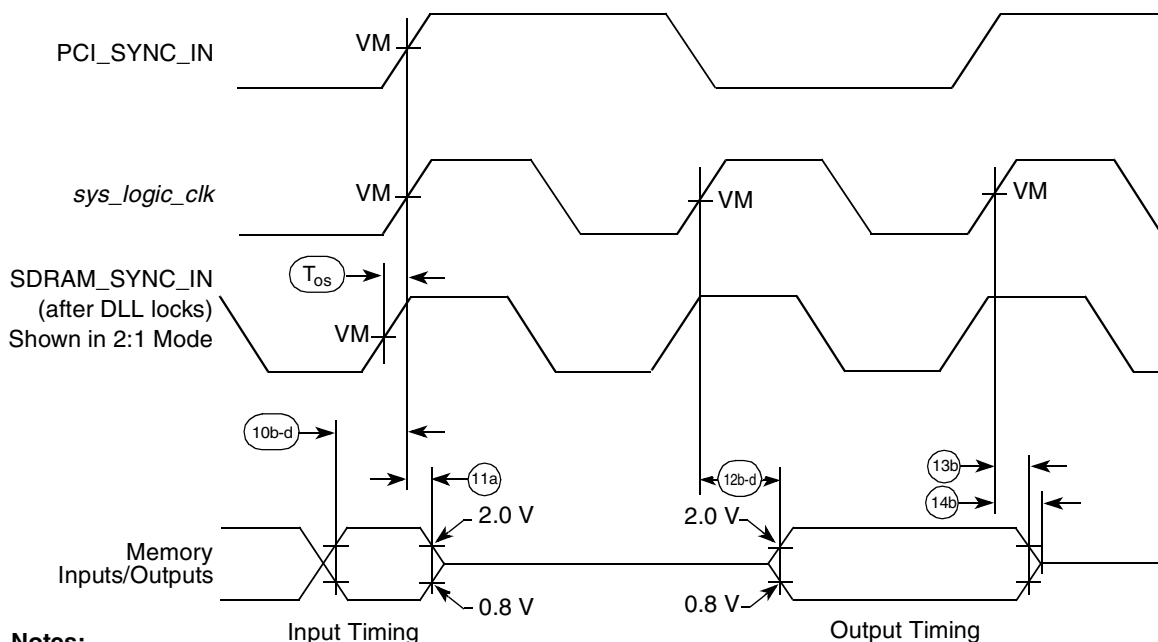
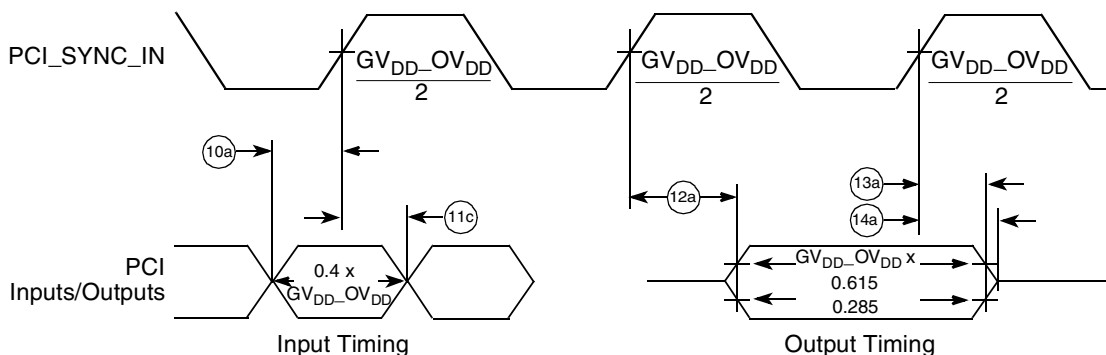

Figure 11. Input/Output Timing Diagram Referenced to SDRAM_SYNC_IN
Figure 12. Input/Output Timing Diagram Referenced to PCI_SYNC_IN
Table 10 provides the input AC timing specifications at recommended operating conditions (see Table 2) with $V_{DD} = 3.3 \text{ V} \pm 0.3 \text{ V}$. See Figure 11 and Figure 12.
- All PCI signals are measured from $\text{GV}_{\text{DD_OVDD}}/2$ of the rising edge of PCI_SYNC_IN to $0.4 \times \text{GV}_{\text{DD_OVDD}}$ of the signal in question for 3.3-V PCI signaling levels. See Figure 12.
- All memory and related interface input signal specifications are measured from the TTL level (0.8 or 2.0 V) of the signal in question to the $\text{VM} = 1.4$ V of the rising edge of the memory bus clock. *sys_logic_clk*. *sys_logic_clk* is the same as PCI_SYNC_IN in 1:1 mode, but is twice the frequency in 2:1 mode (processor/memory bus clock rising edges occur on every rising and falling edge of PCI_SYNC_IN). See Figure 11.
Table 11 provides the processor bus AC timing specifications for the MPC8241 at recommended operating conditions (see Table 2) with $V_{DD} = 3.3 \text{ V} \pm 0.3 \text{ V}$ (see Figure 11). All output timings assume a purely resistive 50- Ω load (see Figure 14). Output timings are measured at the pin; time-of-flight delays must be added for trace lengths, vias, and connectors in the system. These specifications are for the default driver strengths that Table 4 indicates.
1. All PCI signals are measured from $GV_{DD_OV_{DD}}/2$ of the rising edge of *PCI_SYNC_IN* to $0.285 \times GV_{DD_OV_{DD}}$ or $0.615 \times GV_{DD_OV_{DD}}$ of the signal in question for 3.3 V PCI signaling levels. See Figure 12.
2. All memory and related interface output signal specifications are specified from the $VM = 1.4$ V of the rising edge of the memory bus clock, *sys_logic_clk* to the TTL level (0.8 or 2.0 V) of the signal in question. *sys_logic_clk* is the same as *PCI_SYNC_IN* in 1:1 mode, but is twice the frequency in 2:1 mode (processor/memory bus clock rising edges occur on every rising and falling edge of *PCI_SYNC_IN*). See Figure 11.